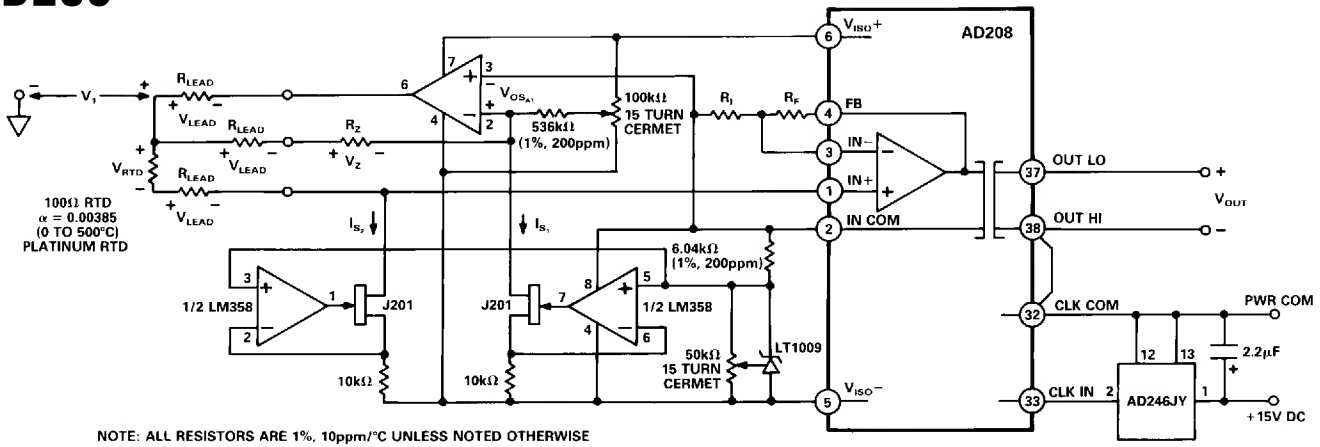

Figure 34. Using the AD208 in an Isolated RTD Application
**Isolated RTD Signal Processing.** The stable high gain properties and low offset drift characteristics make the AD208 an ideal component for use in isolated RTD signal processing applications. RTD applications typically require the following three major elements: a stable current excitation source, a lead compensation network and a zero suppression network. The circuit schematic of Figure 34 illustrates how to use the AD208 with a handful of low power external components to condition, amplify and isolate low level RTD signals.
In the RTD application shown in Figure 34, the stable current excitation source needed to drive the RTD consists of a:
Zero suppression is accomplished in Figure 34 by using a simple ground servo amplifier in combination with the resistor labelled  $R_Z$ , while lead wire compensation is realized by remote sensing the RTD with the ground servo. The current,  $I_{S1}$  develops a voltage  $V_1$  that is equal to:
where the voltages  $V_1$ ,  $V_{OS_{AI}}$ ,  $V_Z$  and  $V_{LEAD}$  are as indicated in Figure 34.
The current  $I_{S2}$ , in turn, develops the voltage seen by the input amplifier of the AD208 and, with reference to the voltages labelled in Figure 34,  $V_{IN}$  is given by:
The gain equation for the circuit of Figure 34 is determined by the formula given below.
The circuit of Figure 34 accommodates a 10 mV/ $^\circ\text{C}$ , unlinearized output for a 100  $\Omega$  platinum RTD. The circuit allows for a maximum measured temperature range of 500 $^\circ\text{C}$ . The initial input offset is  $\pm 1.3$  mV (max) which is roughly equivalent to 5.2  $\Omega$ . The offset adjustment circuit, which has a  $\pm 1.5$  mV (RTI) adjustment range, can be used to easily trim out this initial offset. The offset drift of the RTD application shown in Figure 34 is  $\pm 4$   $\mu\text{V}/^\circ\text{C}$  (max) or 0.016  $\Omega/^\circ\text{C}$ .